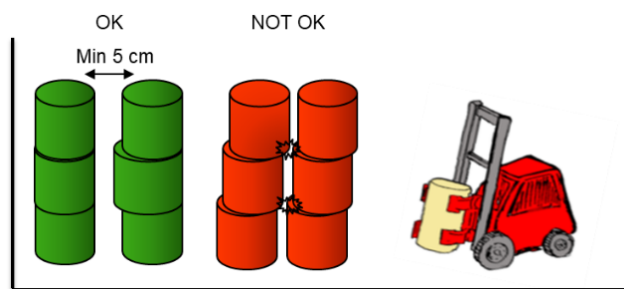

Figure 1, even stacks, no overlapping
- ⦿ Even stacks, with a min of 5 cm between the stacks. Overlapping of reels causing high risk of edge damages. See figure 1.